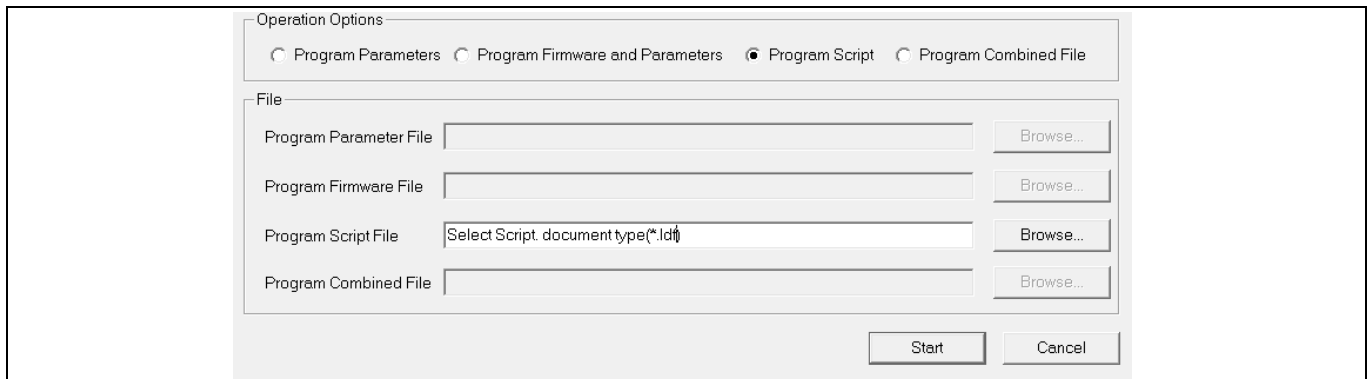

Figure 17 Program the script
6. If the script file needs to be programmed in the internal Flash memory of iMOTION™ Control IC after programmed firmware and parameters file, still click on system page, click “Tools” > “Programmer” and select “Program Script,” shown as in Figure 17. Regarding the Script file, browse and select the ‘xxx_Script.ldf’ file prepared in Section 2.1.4. After programming script, please click “File” > “Import Register Map” to import script (.map) file into MCEDesigner file (.irc), and save this (.irc) file, otherwise a map error will appear.